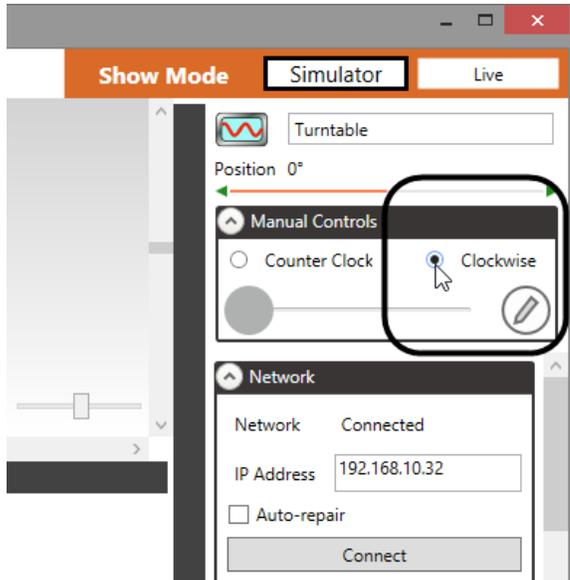

Figure 41
6. With the *Turntable* selected, we are going to run it clockwise until it is pointing downstage. Click on the **Clockwise** radio button in the **Manual Controls** section of the **Stagehand Editor** (Figure 41).